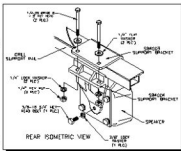

FIGURE 2
2) With the two bolts inserted, place the SB4004 bracket behind the unit. (FIGURE 2) Align the 1/4" bolts with the pre-drilled holes in the bracket. Insert the bolts through the SB4004 bracket and add lock-washer and nut to each bolt. (DO NOT TIGHTEN) From the back of the siren unit, inset the 3/8-16 x 3/4" through both brackets to secure them together.